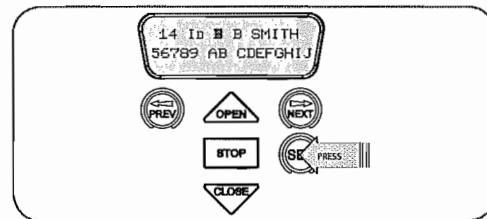

fig 33
1. Press NEXT or PREV to move select character to change. (Fig. 33)